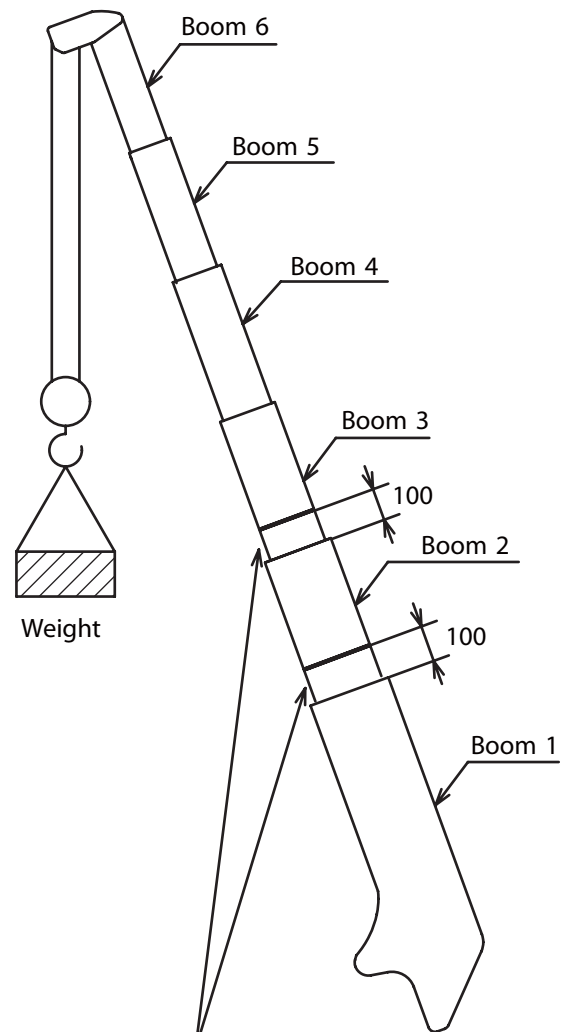
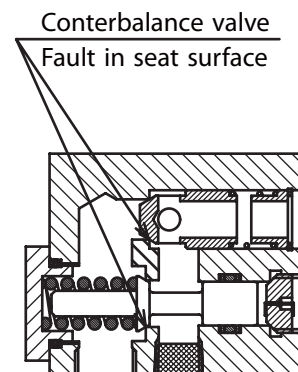

Fig 1 Put a mark on boom2 and boom 3
Fig 3
(1) Preparation before inspection
- ① Allow booms to be horizontal and extend them fully to put a mark on each boom section (refer to Fig. 1).
- ② Raise booms to their maximum to sling a load.
- ③ In order to release pressure remained in the telescoping system, stop the engine and shift the manual lever for telescoping booms.
(2) Starting inspection
- ④ Remove the retraction hose to check if oil overflows continuously out of the cylinder port of retraction side. At the same time, also check that which boom section sinks how far to grasp condition of booms as a whole. If no oil flows out of the port of retraction side, the cylinder is normal.
- ⑤ Next, remove the extension hose, and if oil overflows continuously out of counter-balance valve port of extension side, there may be faulty on the seat surface of counter-balance valve (refer to Fig. 3). In addition, check how far boom3 sinks simultaneously.